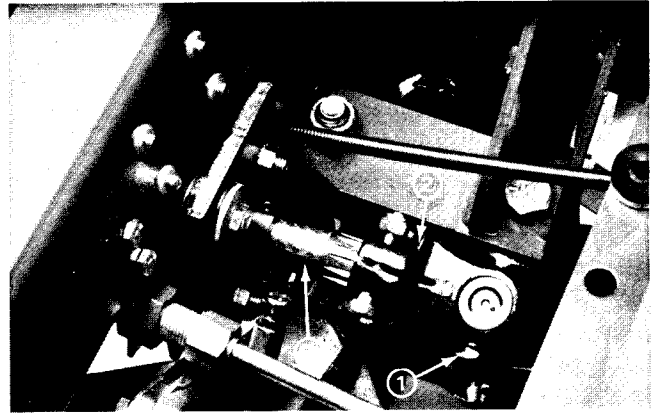

Figure 19
2. If the rear universal joint (Fig. 19) must be removed, remove the fuel tank (See Removing and Installing the Fuel Tank in the Fuel System Repairs section of Chapter 3 - Mitsubishi Diesel Engine.)
3. Drive the roll pin out of the yoke (Fig. 19, 20). Loosen the clamping bolts and lock nuts. Disconnect the yoke(s) from the PTO shaft and/or implement input shaft.